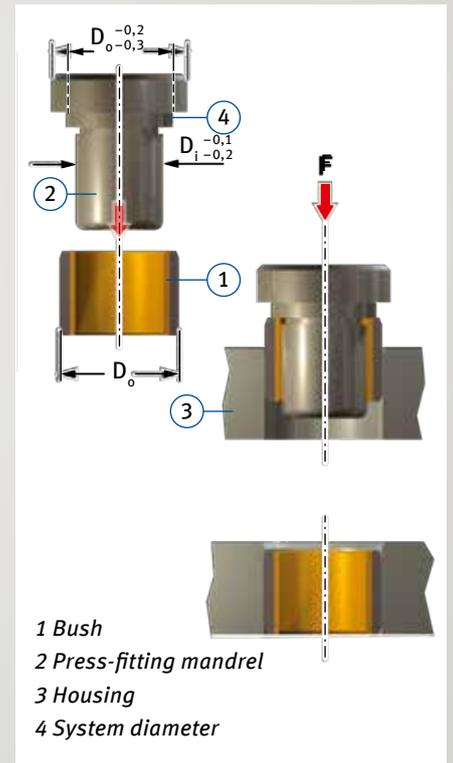

Fig. 52: Recessed press-fitting  $D_o \geq 55$  mm
- Recessed press-fitting with mandrel, without auxiliary ring, as per Fig. 52